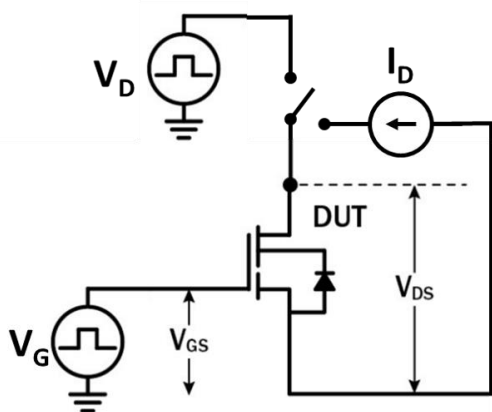

Figure 19. Dynamic  $R_{DS(on)eff}$  Test Circuit
- a. Dynamic on-resistance; see Figures 19 and 20 for test circuit and conditions